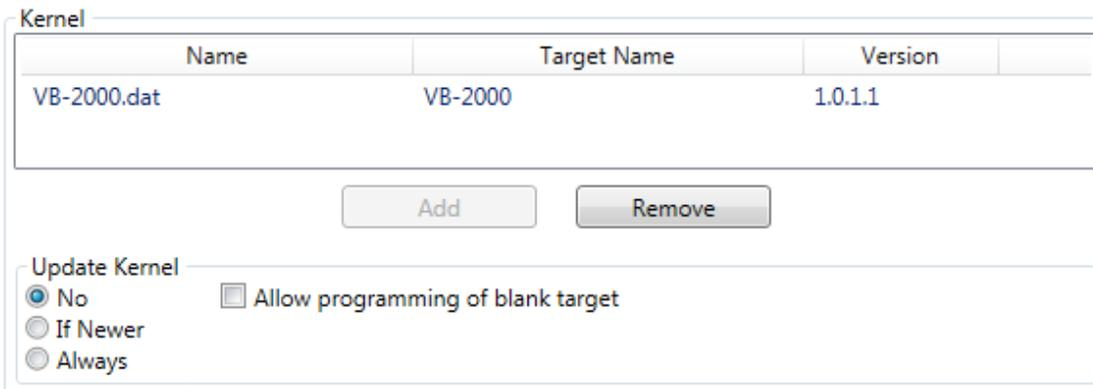

Figure 3
2. In the Kernel pane, click the **ADD** button. A window will open. Browse to the location of the kernel file to be included in the executable update file. Typically, kernel files are loaded in the *Kernel* sub-directory where EZ LADDER Toolkit is installed. Once the file has been selected, click the **Open** button. The window will close and the selected kernel file will now be shown in the Kernel section of the kernel pane. Refer to Figure 3.